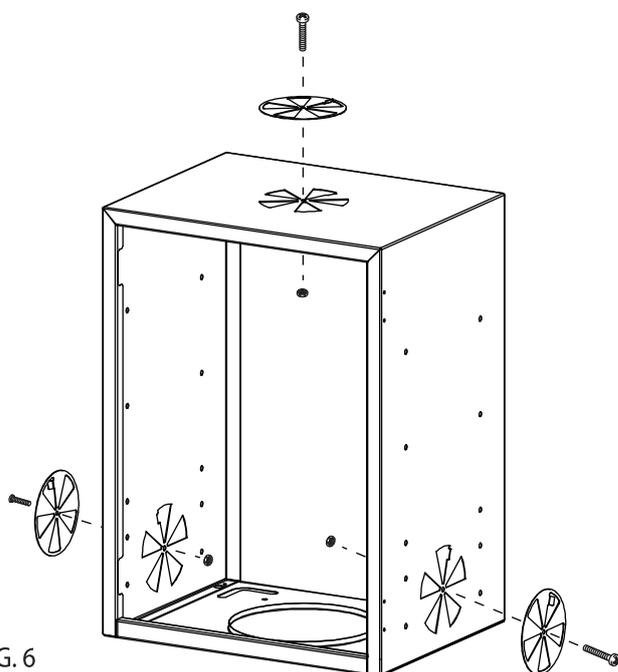

FIG. 6
Using a small bolt (Part A), small washer (Part B) and small hex nut (F) fasten the Vents (4) to the left, right and top of the main body (See Fig 6).